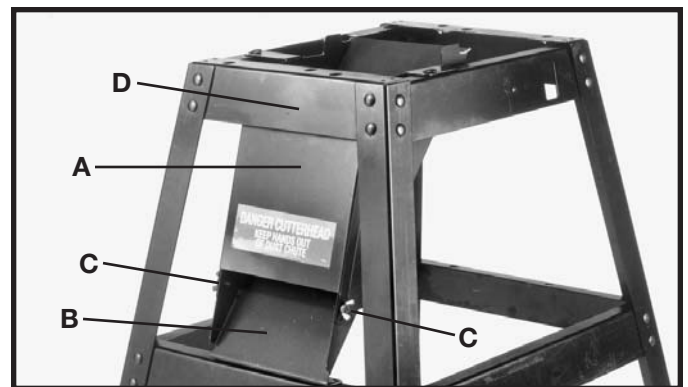

Fig. 14
1. Assemble dust chute cover (A) Fig. 14, to dust chute (B) using two wing screws (C). **IMPORTANT:** Top of dust chute cover (A) must be inside top brace (D) of stand.
1. Remove two wing screws (C) Fig. 14, from dust chute cover (A).